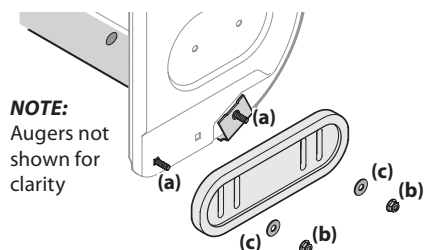

Figure 2-40
- Loosen four hex nuts (a) (two on each side) and carriage bolts (b). Move skid shoes to desired position. See Figure 2-40.
NOTE: The skid shoes on your unit may look slightly different (and have different hardware) than ones shown in Figure 2-40.